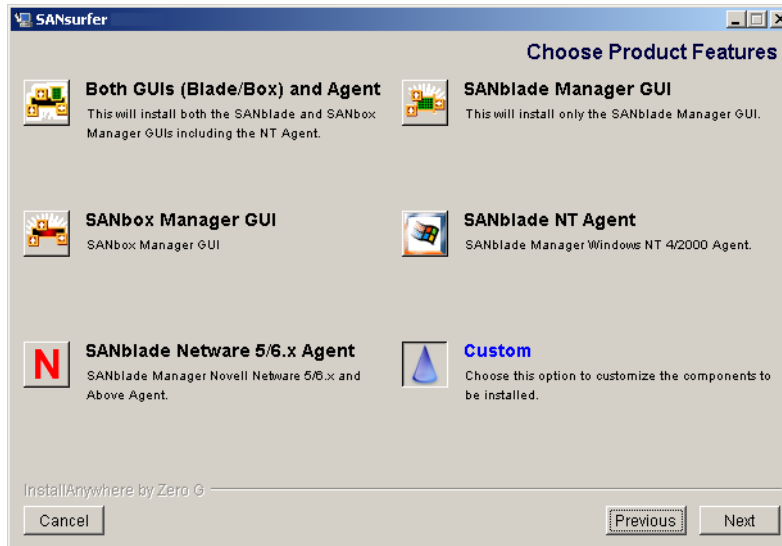

Figure 5-3. Choose Product Features Dialog Box (Sample)
4. The **Choose Product Features** dialog box displays. The dialog box differs, depending on whether you are installing on a Windows 2000/Server 2003, Red Hat/SuSE Linux, or Solaris SPARC system. See figure 5-3 for a sample dialog box.